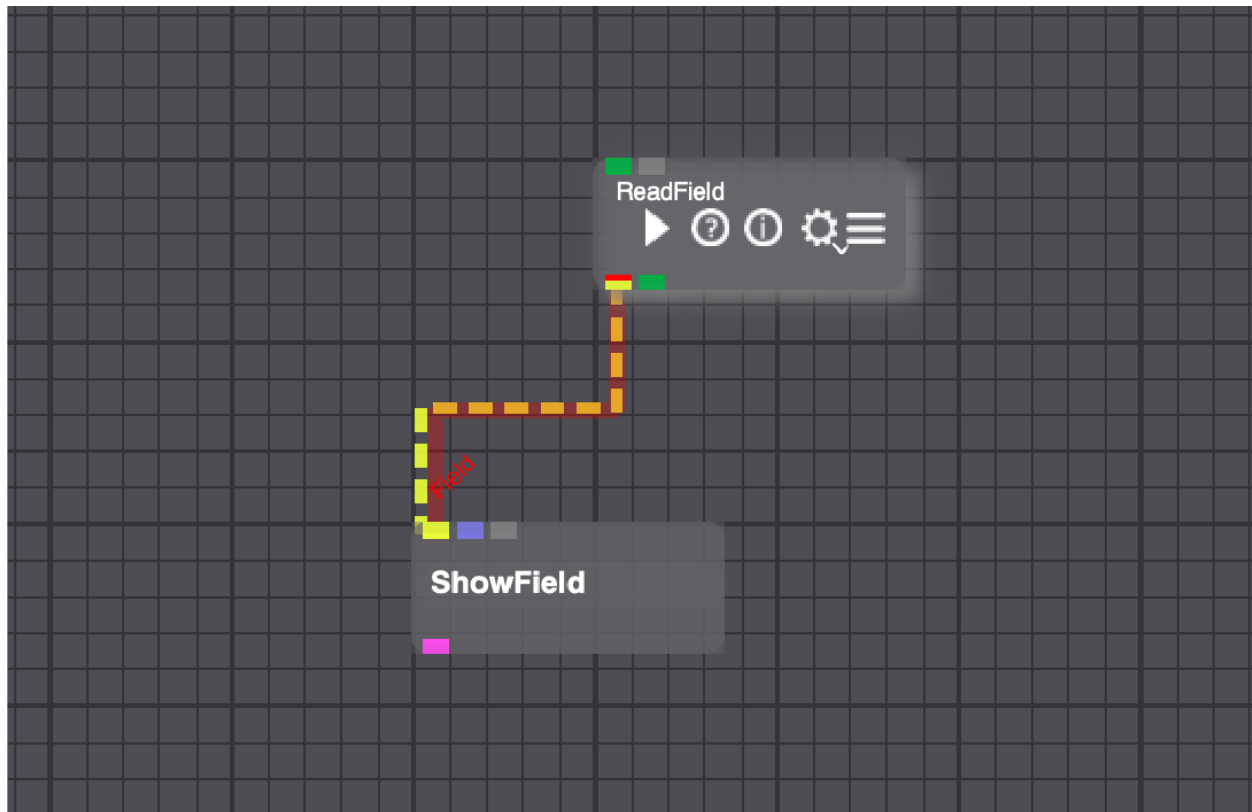

Fig. 3.7: Pipe Selection Options
4. The line turns red, showing the desired connection has been selected. See (Fig. 3.7).